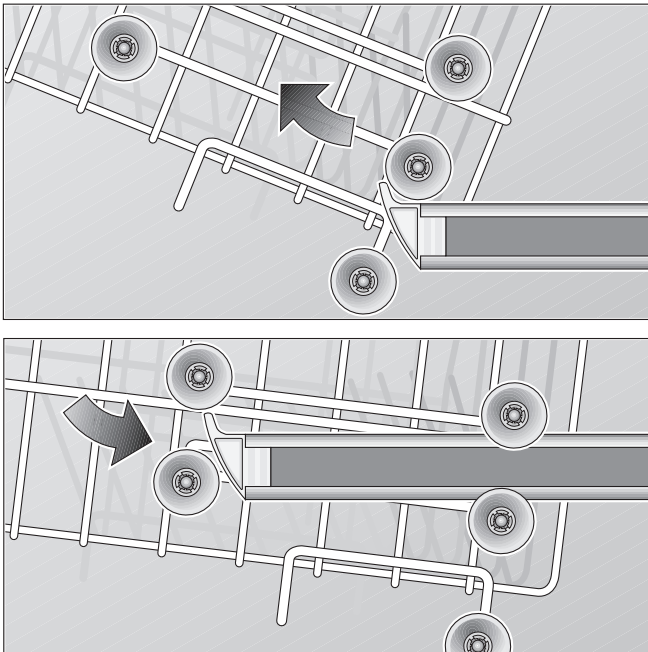

Figure 8. Top drawing: Upper Rack Removal.
- a. First empty upper rack and pull rack partially out to point where rack can be lifted upward as shown in upper illustration of **Figure 8**.